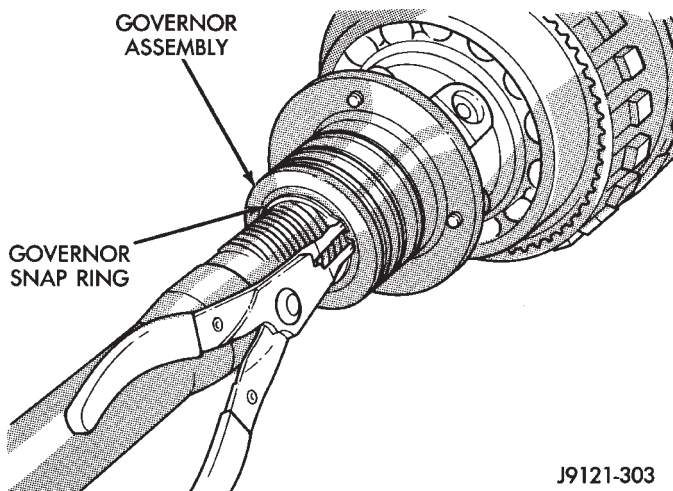

Fig. 17 Removing/Installing Governor Snap Ring
- (2) Remove governor snap ring (fig. 17).